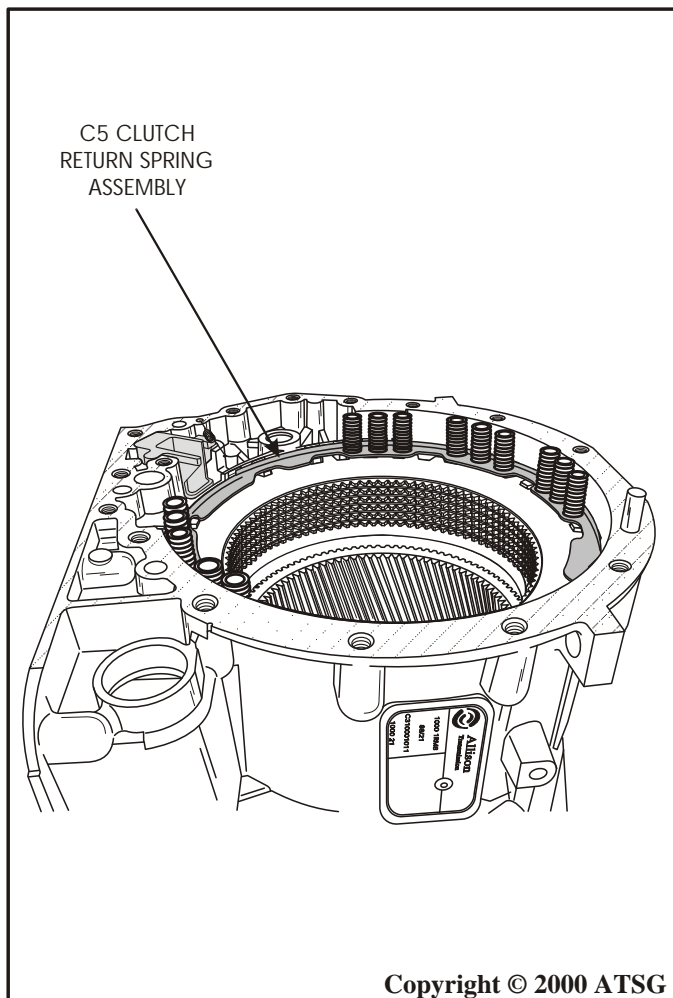

Figure 156
26. After C5 clutch clearance has been verified, install the C5 clutch return spring assembly on top of the last steel plate with the springs facing up, as shown in Figure 156.